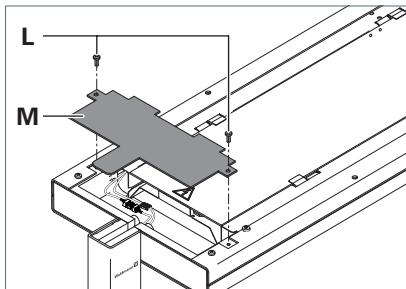

Fig. 7: Mounting the cover
- ▶ Place the cover **M** on the light head, see Fig. 7.